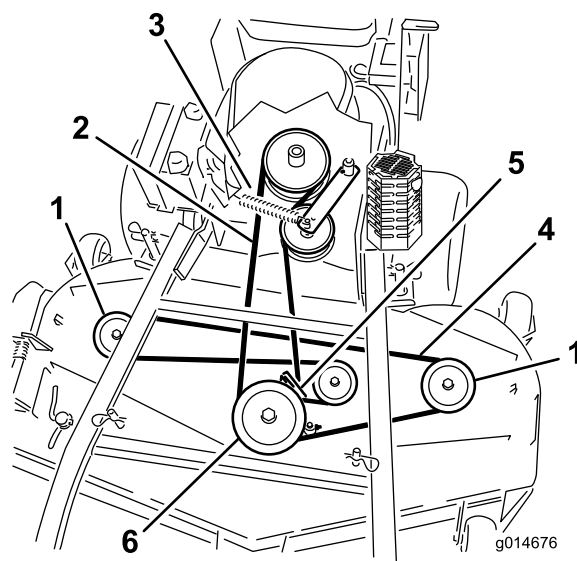

Figure 49
6. Disconnect the idler arm spring to relieve tension on the idler arm and idler pulley, then remove the worn mower belt (Figure 49).
7. Install the new mower belt around the 2 outside spindle pulleys, the idler pulley, and in the lower groove of the double-spindle pulley (Figure 49).
8. Connect the idler-arm spring (Figure 49).
10. Adjust the belt guide 3 mm (1/8 inch) from the belt (Figure 49).